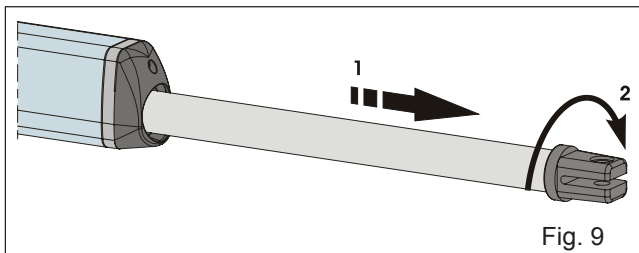

Fig. 9
4. Completely extend the rod until it reaches the limit stop (Fig. 9, Ref. 1).
6. Turn the rod one half revolution clockwise (Fig. 9, Ref. 2).